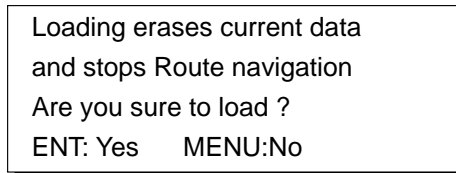

Figure 8-13
- 12) Press ▶ to select Start. The message shown in Figure 8-13 appears.